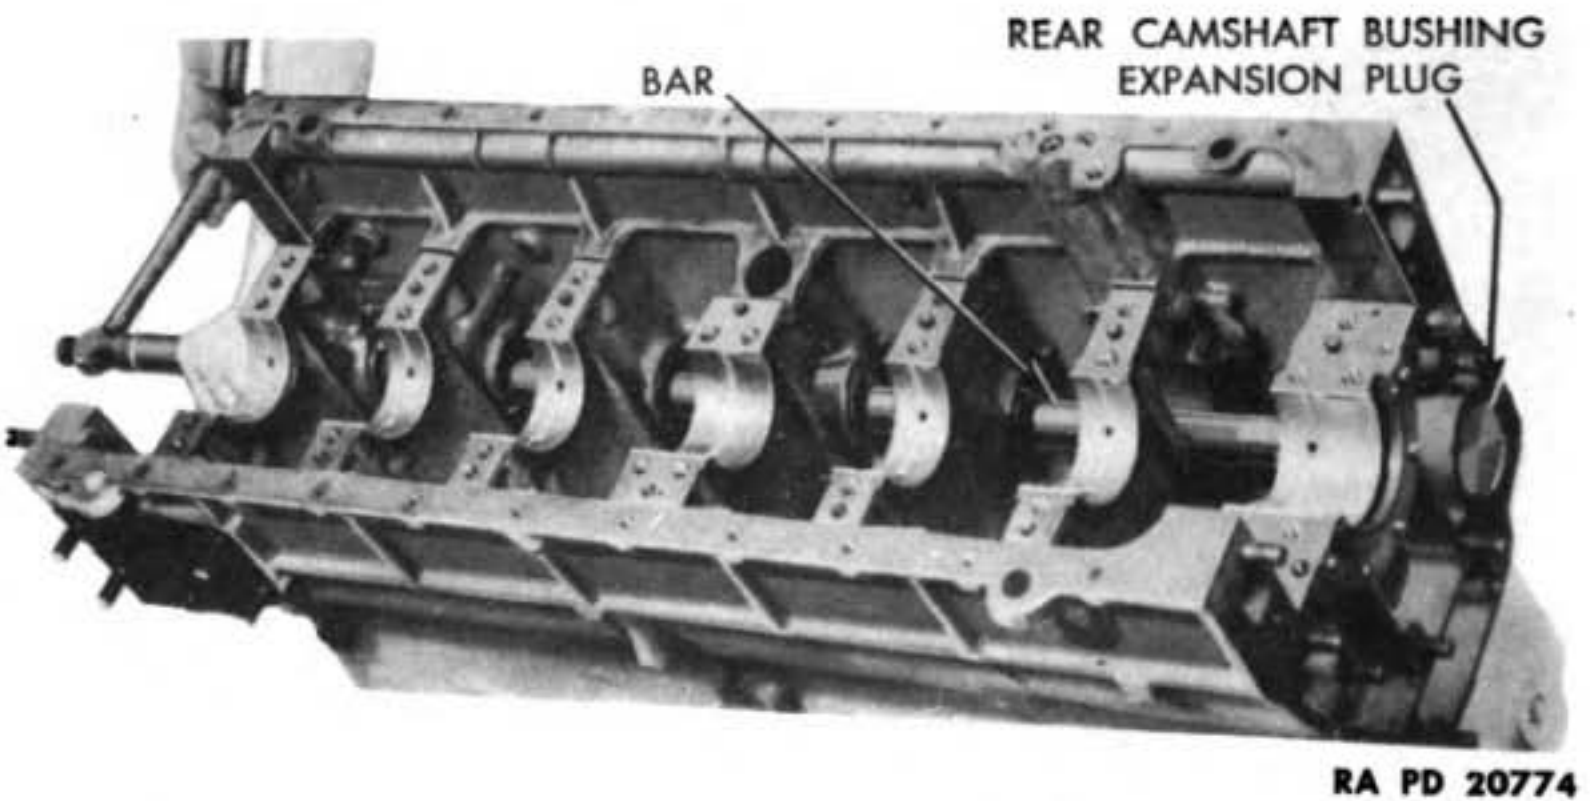
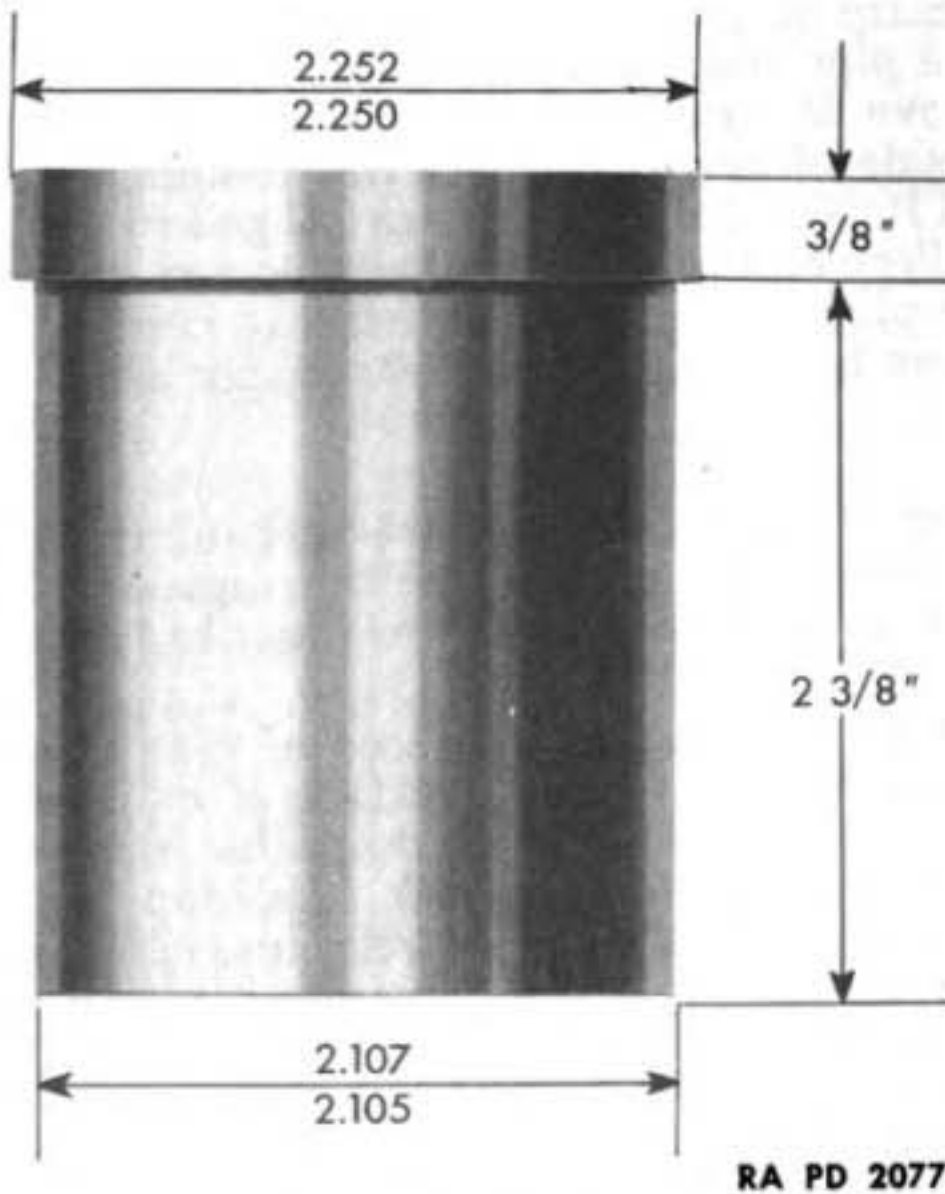
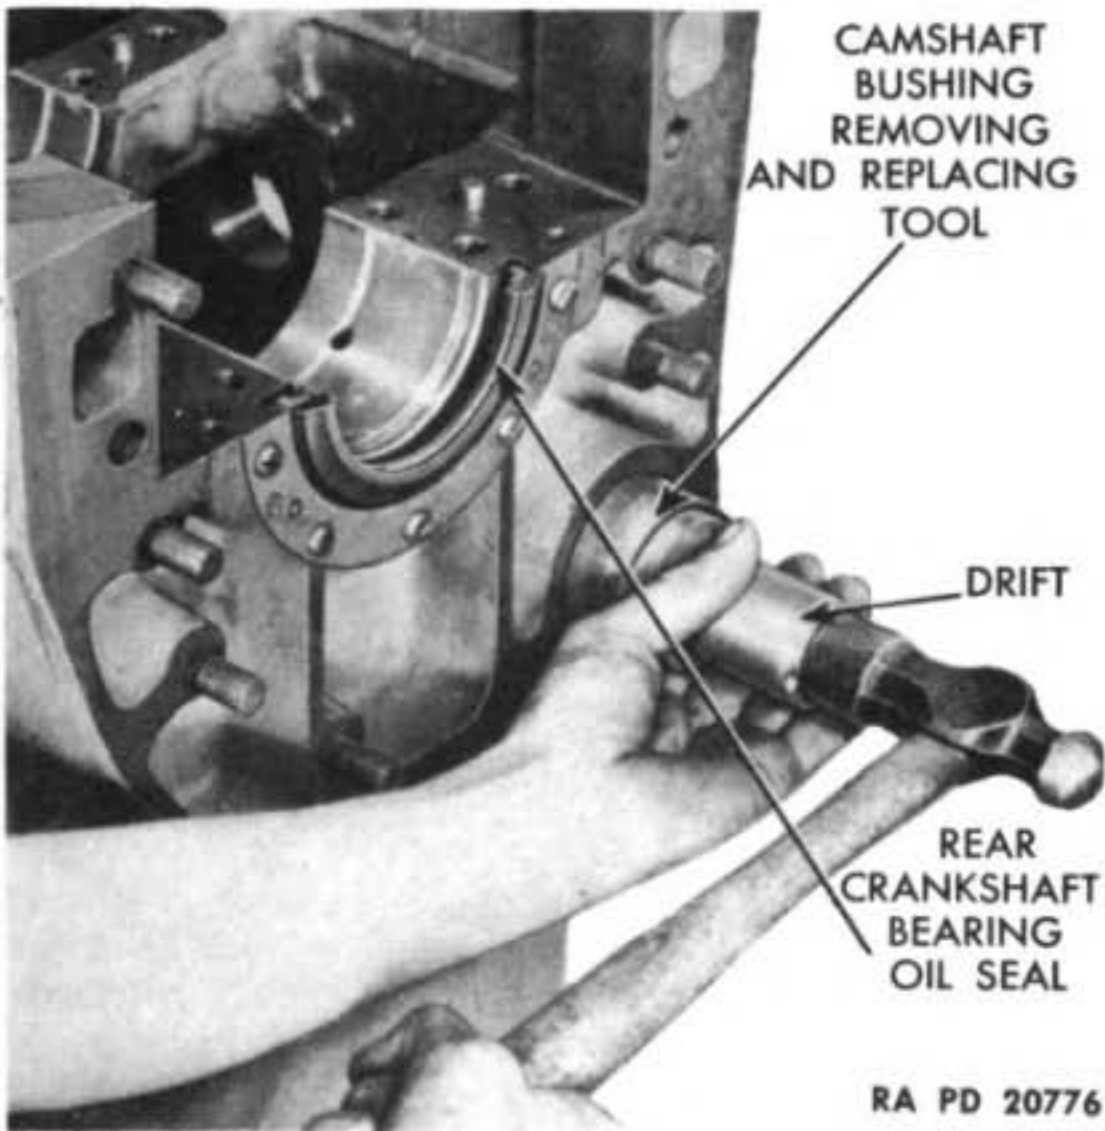

Figure 42 — Removing Rear Camshaft Bushing Expansion Plug
Figure 43 — Camshaft Bushing Removing and Replacing Tool
Figure 44 — Removing Camshaft Bushings
(1) **CAMSHAFT BEARING REPLACEMENT.** Using a bar, knock out rear camshaft bushing expansion plug (fig. 42). Using same bar and camshaft bushing replacing tool (fig. 43), knock out five camshaft bushings (fig. 44). *NOTE: The camshaft bushing replacing tool is made from cold rolled steel to dimensions shown in figure 43.* Replace five bushings with the same tools (fig. 44), making certain that oil holes in bushings line up with oil holes in the bushing bores. Note that center bushing has a large opening in side to clear distributor and oil pump drive gear. Line-ream all five bushings to 2.1240 to 2.1245 inches. Install a new rear camshaft bushing expansion plug, size $2\frac{3}{8}$ inch (fig. 45) using joint and thread compound.